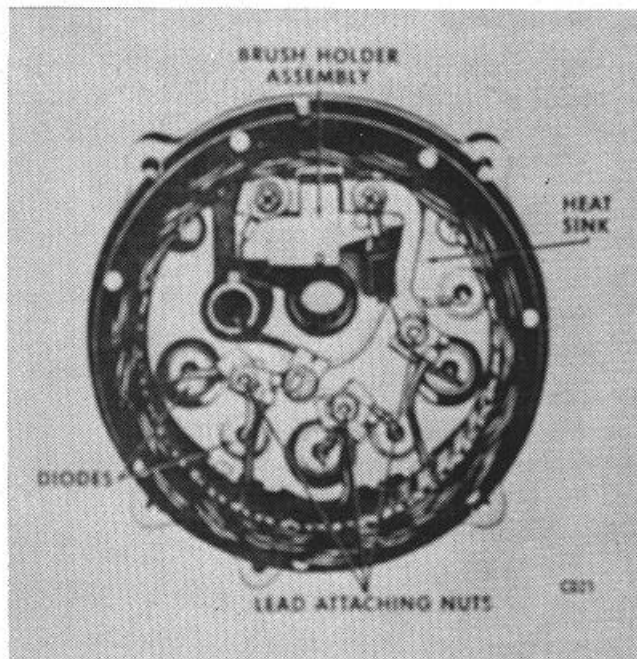

Figure 12.
**NOTE: To check the stator windings, remove all three stator lead attaching nuts (Fig. 12) and then separate the stator assembly from the end frame.**